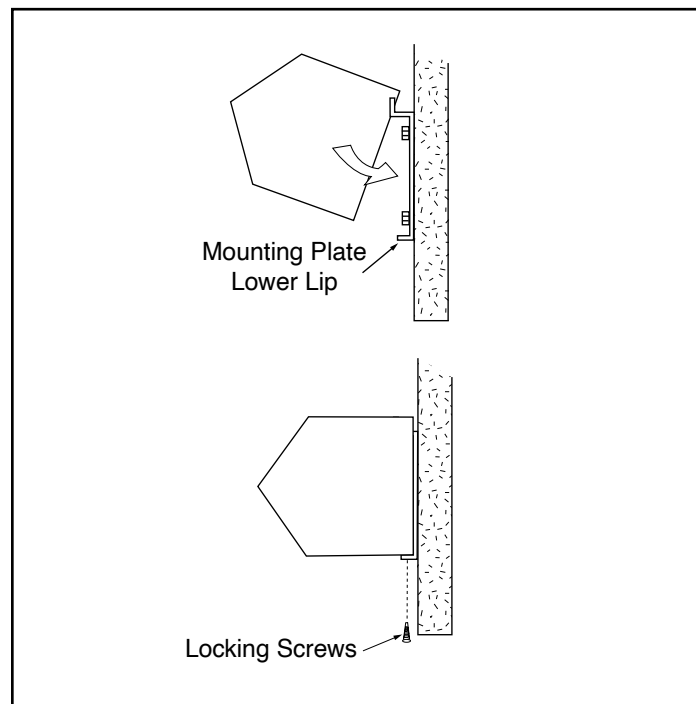

FIGURE 4 - Attaching Unit to Mounting Plate
- E. Raise the unit over the door (air nozzle facing down) and onto the mounting plate. Tilt the unit upward, matching the holes in the frame with the tabs on the mounting plate. **See FIGURE 4.**
- G. After the unit is securely seated to the mounting plate, install the locking screws along the bottom flange. **See FIGURE 4.**